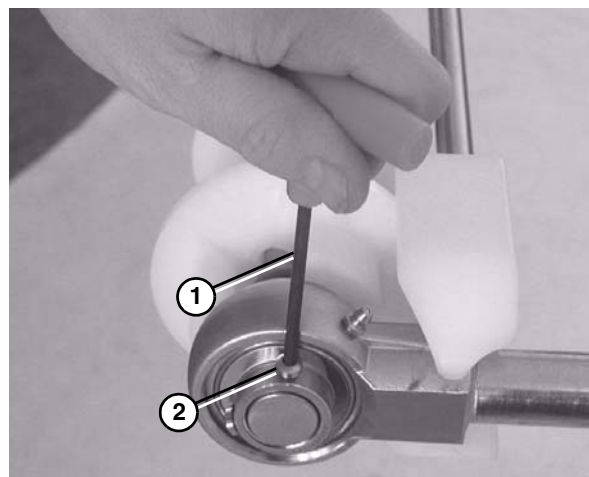

Figure 74
5. Use a hex wrench (**Figure 74, item 1**) to tighten the bearing shaft fasteners (**Figure 74, item 2**) to 6 N•m (54 in•lbs). Check after 24 hours of conveyor use.